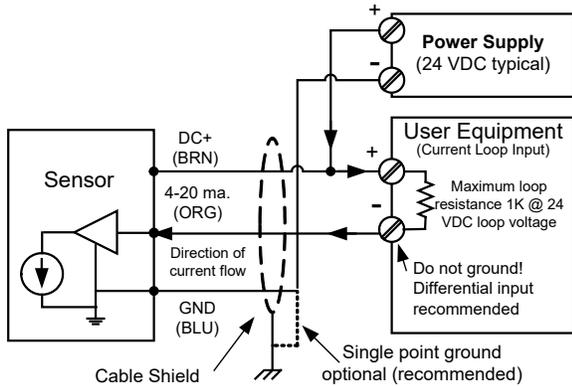

Figure 12 - Sinking Current Loop Wiring
The default sourcing loop output is a 4 to 20 mA signal proportional to the measured distance between two endpoints set by the user. The current range and slope are OmegaVIEW adjustable and identical to that set for the sourcing loop described above. Current flows from the power supply through the user equipment then INTO the sensor (ORG wire) as shown in Figure 12.
*The analog inputs of User Equipment in Figure 12 are either differential (both + and – terminals) or single ended (+ and GND terminals). A differential input is recommended at the user equipment. If the user equipment is single ended (+ input and GND) the sensor and user equipment cannot share a common ground, or the current loop will not work.*